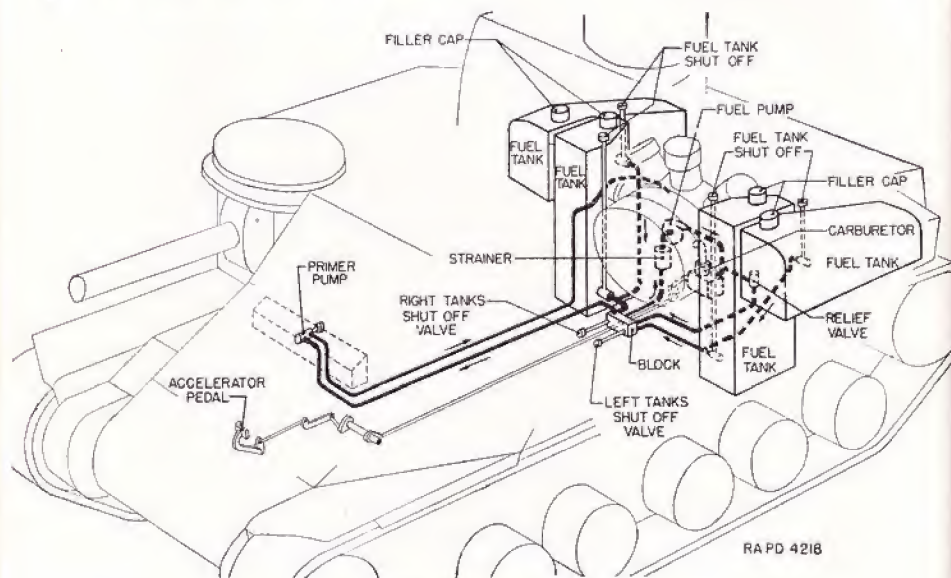

FIGURE 35.—Fuel system.
- (2) *Horizontal tanks.*—(a) Drain tanks.
62. Shut-off valves.—*a.* Two valves (fig. 35) located on the rear wall of the fighting compartment under the engine oil tank and to the right of the power shaft tunnel control the flow from the right and
left fuel tanks. In addition, each tank is provided with a separate shut-off valve (fig. 35). The handles for the vertical tanks extend through the grill, near the turret, in the roof of the hull, while the handles for the horizontal tanks are placed in the countersunk holes in the roof of the hull, back of the filler caps.
66. Gasoline system operation (fig. 35).—Gasoline from any tank or combination of tanks flows to a central header. From the header it is drawn through a strainer by a pump to the carburetor. Excess gasoline is bypassed through a relief valve and returned to